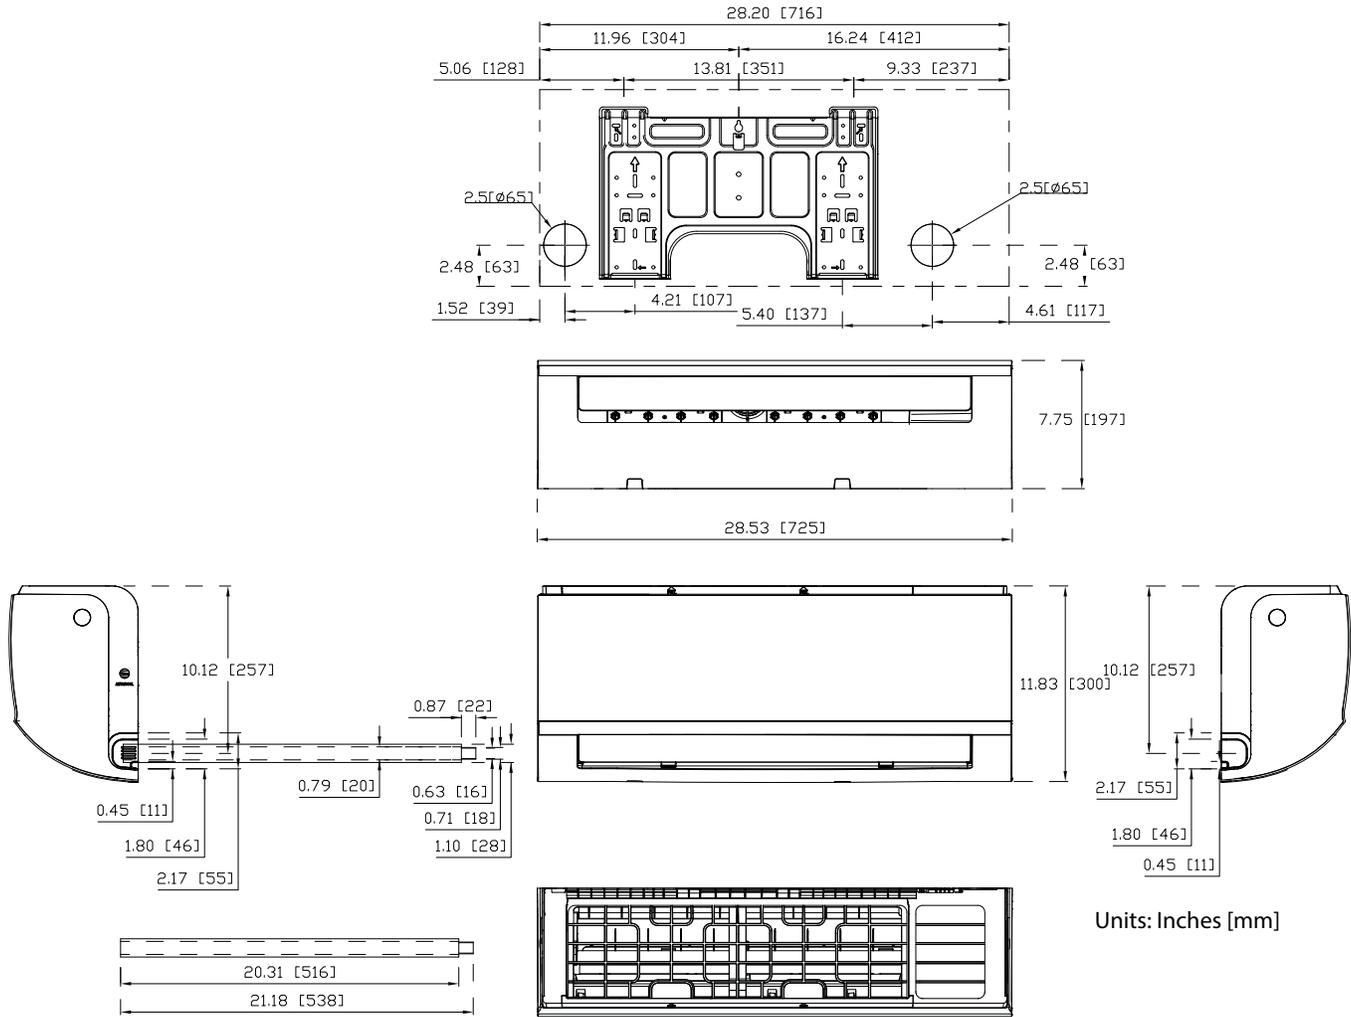
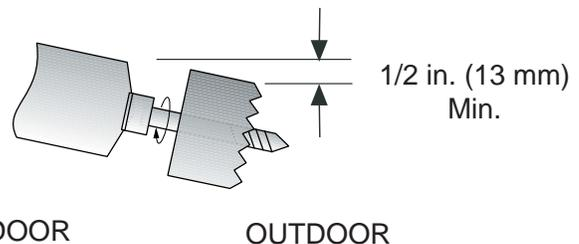

Fig. 2 – Size 9K
Fig. 9 – Drill Holes
Different model sizes have different mounting plates. Ensure there's enough room to mount the indoor unit (refer to Fig. 2–5). The following measurements can be located on these figures:
1. Determine the pipe hole position using the mounting plate as a template. Drill pipe hole diameter per values given in Fig. 2 through 5. The outside pipe hole is 1/2-in. (13 mm) min. lower than inside pipe hole, so it slants slightly downward (see Fig. 9).